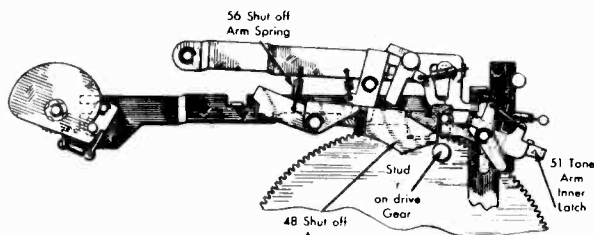
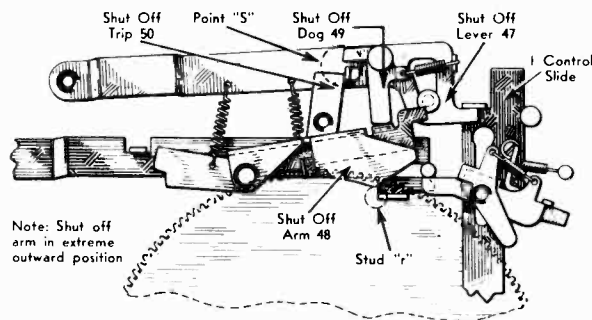
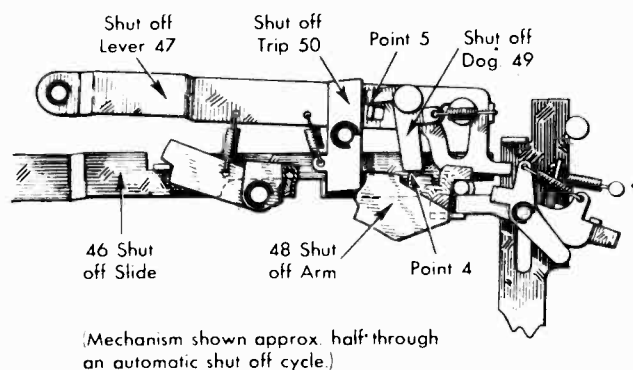

FIG. 14. CUTAWAY—BOTTOM VIEW
FIG. 17. CUTAWAY—BOTTOM VIEW
FIG. 20. CUTAWAY—BOTTOM VIEW
5. Just at the end of the drive gear cycle, the stud "r" engages the shutoff arm (48), moves the latter to its extreme outer position (this position shown in Fig. 17), and through the locked shutoff dog (49), moves the shutoff lever (47). This latter movement forces the control slide (1) into the "OFF" position and turns off the power switch (2). The completion of the drive gear cycle permits the shutoff arm (48) to resume its rest position. As the shutoff lever (47) moves to the rest position, the shutoff dog (49), pivoted thereon, is caught by the shutoff trip (50) and reset in its rest position. (See Fig. 14 for "rest" position of these parts. See page 15 for detailed operation of shutoff trip and dog.)
Point 4 is the point of contact between the shutoff arm and the shutoff dog. As described in the previous section, the shutoff slide actuates the shutoff trip clearing the shutoff dog and allowing it to rotate from the position shown in Figure 14 to the position in Figure 20. At point 4 and in the position shown in Figure 20, it is necessary that there be sufficient clearance between the formed up end of the shutoff arm and end of the shutoff dog at point 4 so that the dog can assume the position shown in Figure 20.
It should be understood that the shutoff trip is fastened to the changer panel and is spring loaded, while the shutoff dog is attached to the shutoff lever and is also spring loaded. As the automatic shutoff cycle progresses, the drive gear stud rotates until it strikes the shutoff arm with a cam action forcing it out toward the edge of the panel. This outward motion of the shutoff arm is transmitted to the shutoff lever because of the abutment shown in Figure 20 at point 4. (Remember that this alignment occurs only during an automatic shutoff cycle. At any other time, the shutoff dog does not engage the shutoff arm.) Further movement of the shutoff arm and the shutoff lever toward the outer edge of the panel will result in the shutoff dog completely clearing the shutoff trip. This position is shown in Figure 17. When this occurs the shutoff trip is free to rotate slightly so that when the shutoff arm, shutoff lever and the shutoff dog return, the shutoff dog will engage the trip at point 5, and will return to the position in Figure 14. Until such a time as movement of the control slide again operates the shutoff trip, the automatic shutoff mechanism will remain inoperative since the shutoff dog is not in a position to line up with the shutoff arm and engage it at point 4. The maximum outward motion of the shutoff arm and the shutoff lever must be sufficient so that the shutoff dog is carried far enough to completely clear the shutoff trip at point 5 in Figure 17.
Failure of the shutoff dog to return to the position shown in Figure 14 will result in repeated automatic shutoff cycles. This condition may result from insufficient clearance at either point 4 or point 5.